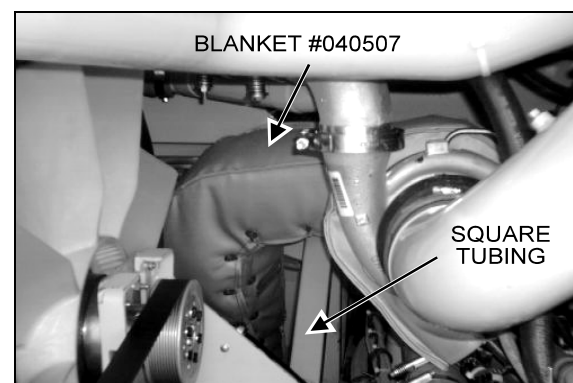

FIGURE 4: EXHAUST BLANKET INSTALLATION 01034
1. Open L.H. side rear service compartment door, then working from inside compartment, cover bellows and exhaust pipe with blanket #040507 (Fig. 4). Position blanket so its recess is facing square tubing.
2. Cover bellows and exhaust pipe with blanket #040511. Position blanket so its recess is facing radiator shroud & fan. Refer to figure 4 showing installation on XL2-45 vehicles; on this model, the blanket is not provided with a recess since the clearance between radiator fan and exhaust pipe is sufficient.